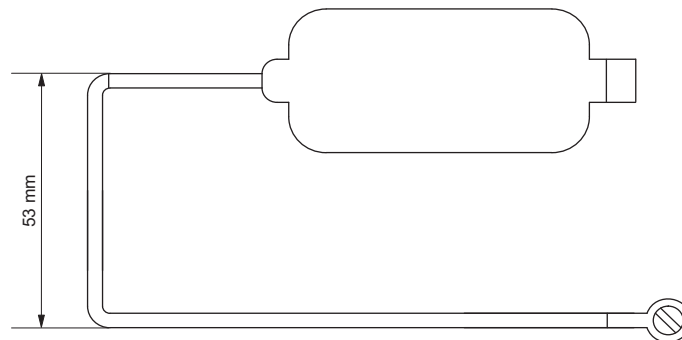

Figure 3.3: Dimensions for bends in the connecting wire
8. Bend the wire connection of the new stroboscope lamp twice at a right angle directly after the electrode pin, as shown in FIGURE 3.3.